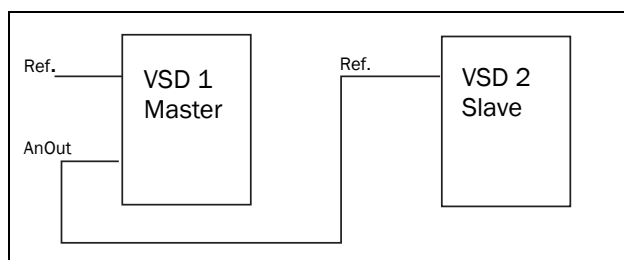

Fig. 106
- a reference signal for the next VSD in a Master/Slave configuration (see Fig. 106).